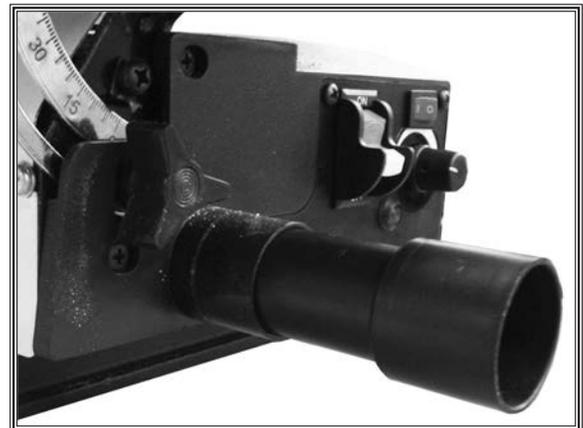

Figure 16. Dust port adapter.
3. If needed, use the included dust port adapter, as shown in **Figure 16**. This will require (2) 1 1/2" hose clamps.